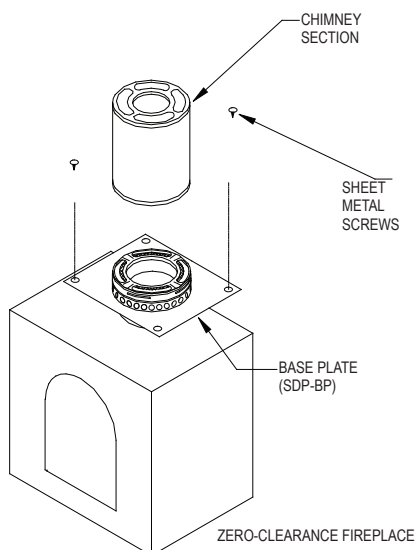

Figure 31
- 2. Base Plate:** Attach a Base Plate to the fireplace top with sheet metal screws. **(Figure 31).** A high temperature sealant may be used if desired.